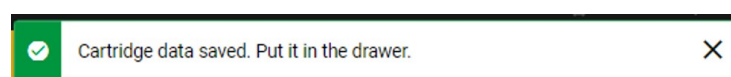

Figure 18. Cartridge saved dialog.
5. After successful data entry, the following message bar appears briefly at the top of the screen (Figure 18).